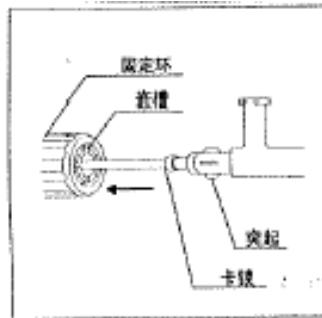

Fig 3.3
6. Adjust the four protuberances at the end of the sheath to the four grooves within the retaining ring, and then insert the lock into the retaining ring. (See fig. 3.3)